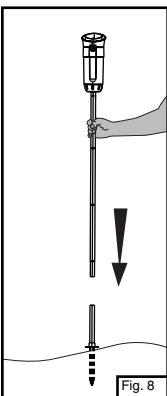

Fig. 8
- Place pole assembly into stake. (Fig. 8)